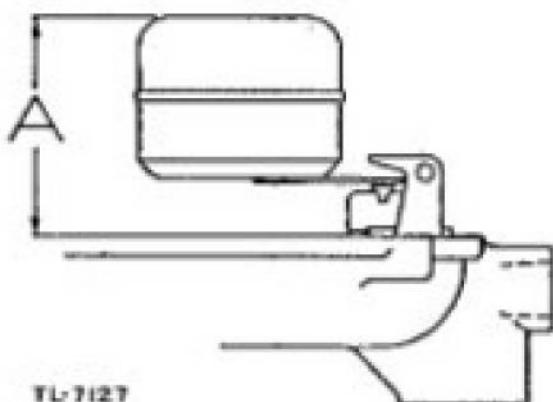

Figure 26. Carburetor float adjustment.
- (21) Replace the fuel-valve seat and a new gasket, using the C161-85 service tool.
- (22) Replace the fuel-valve needle.
- (23) Replace the float assembly and float axle, using the handle end of a screw driver to drive the float axle into the slotted end of the float-hinge bracket.
- (24) Check the position of the float assembly for correct fuel level. The "A" dimension shown in figure 26 should be 1 39/64 inches plus or minus 3/64 inch. Float should move freely on its axle.
b. REPAIRS REQUIRING REMOVAL AND DISASSEMBLY OF THE PUMP (fig. 26.) *Fuel pump trouble chart follows.*